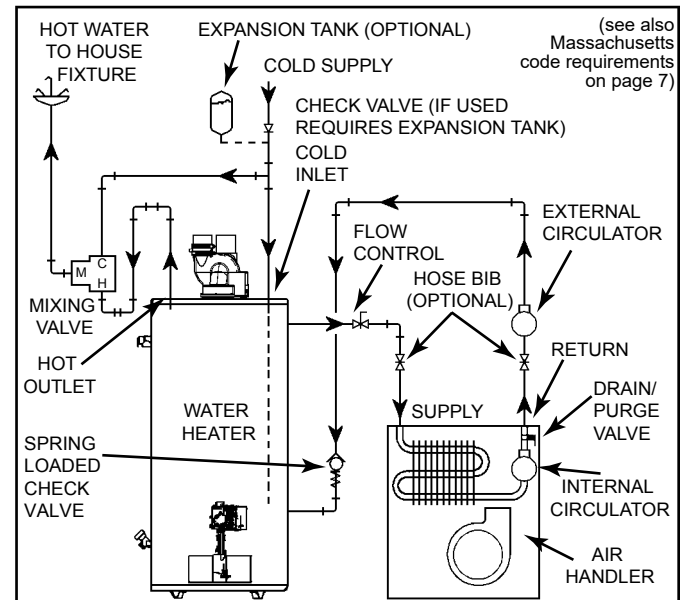
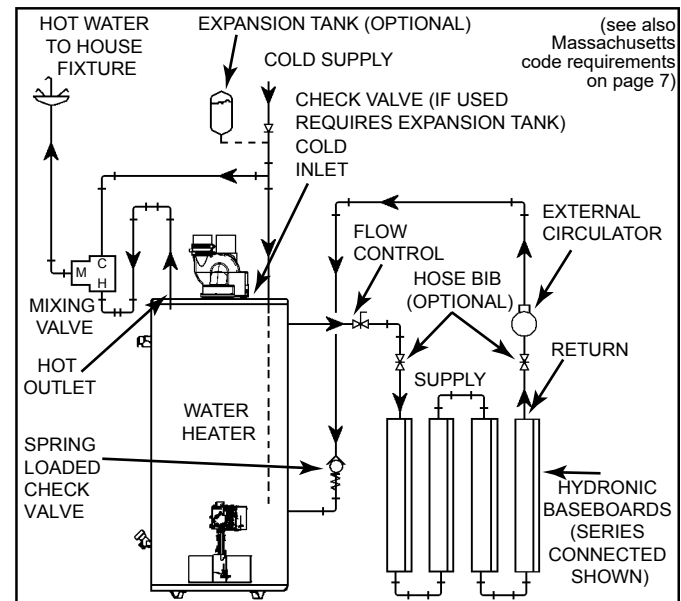

Figure 12.
Figure 13.
8. “Combo” Heating Systems require higher water temperatures than other applications. When the system is used to supply water for Combo Heating applications, a means, such as Thermostatic Mixing Valves (see Figure 7) at each point-of-use, must be installed to temper the water in order to reduce scald hazard potential (see Figure 12 and Figure 13).
- A. A fan coil/air handler (Figure 12).
- B. A hydronic baseboard (finned tube) loop/In floor heating (Figure 13).